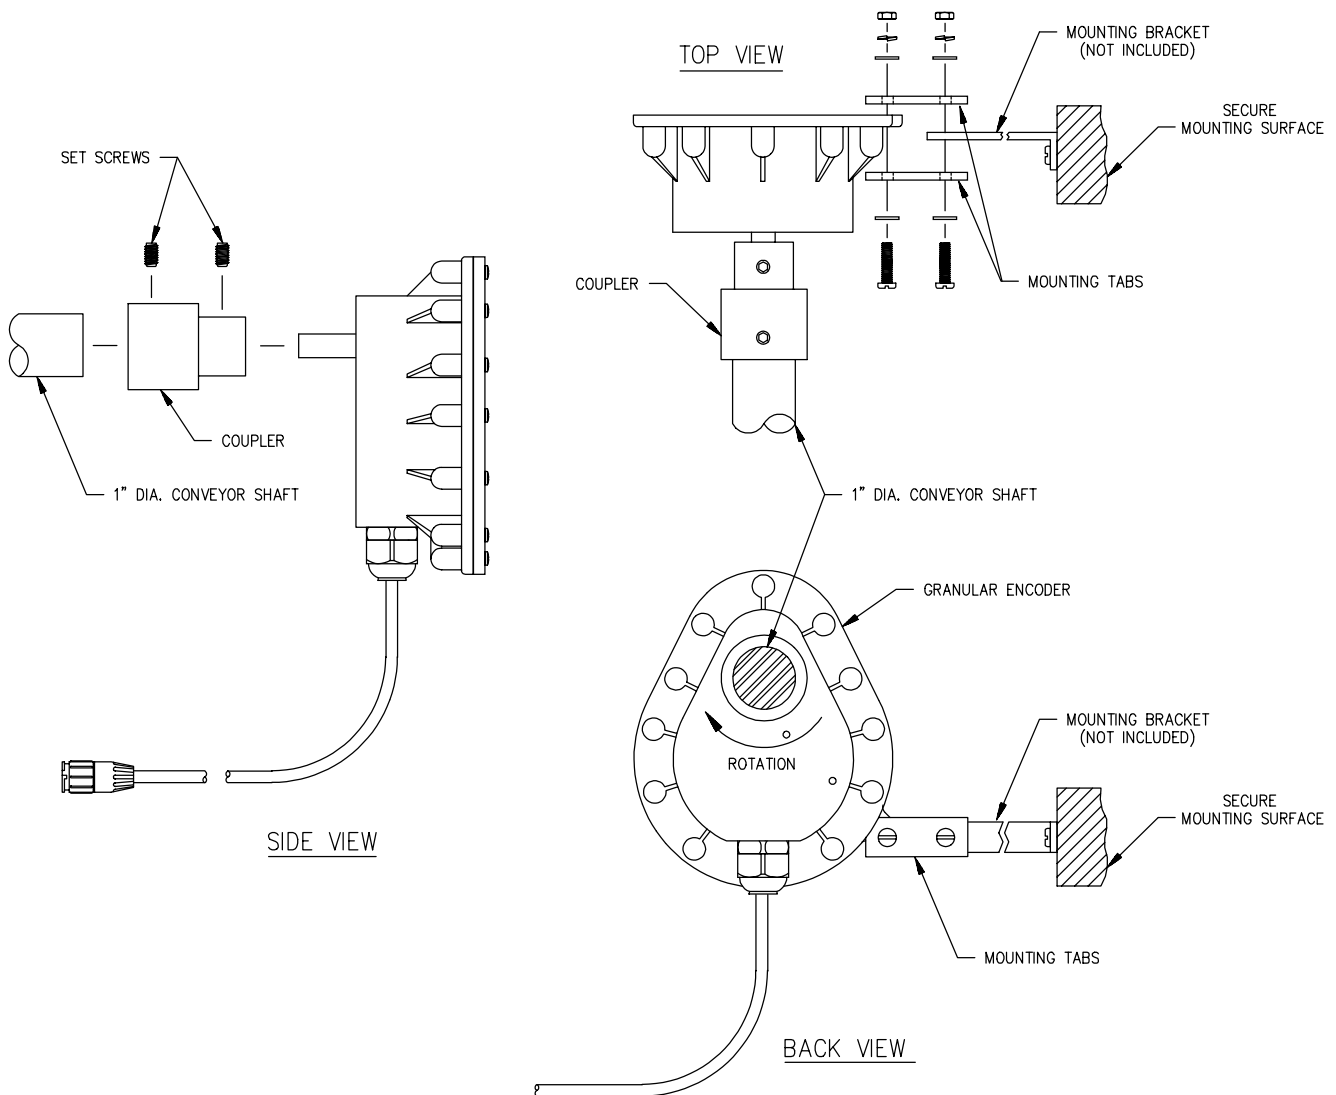

FIGURE 1
- 3) Install mounting tabs to Encoder as shown in Figure 1. Connect mounting tab to mounting bracket (not provided) to prevent Encoder from rotating. **DO NOT** rigidly mount Encoder. Encoder is to be supported by coupler ONLY.